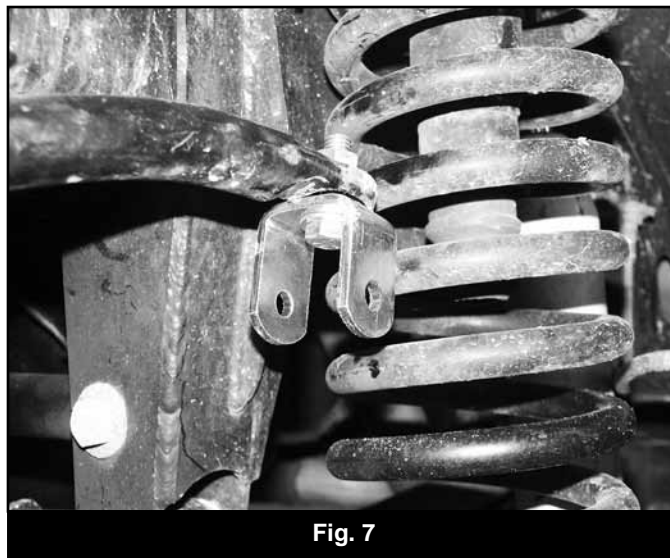

Fig. 7
33. Install the provided upper u-bracket (01325) to the sway bar using the original link mounting hole with a 7/16" x 1-1/2" bolt, nut, 7/16" SAE and 7/16" USS washers (Pack 718). Install the bolt up through the u-bracket with an SAE washer into the sway bar. Fasten with the nut and USS washer. Position the bracket so that the thru-holes are parallel to the stud on the axle (Fig 7)